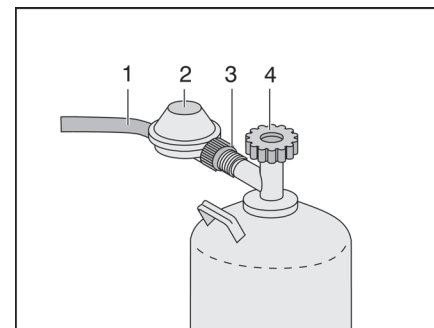

Fig. 77 Gas bottle connection
- ▶ Close the regulator tap (Fig. 77,4) on the gas bottle. Pay attention to the direction of the arrow.
- ▶ Hold the gas pressure regulator (Fig. 77,2) and open the knurled nut (Fig. 77,3) (left-handed thread).
- ▶ Remove the gas pressure regulator and the gas tube (Fig. 77,1) from the gas bottle.
- ▶ Position the gas pressure regulator (Fig. 77,2) and the gas tube (Fig. 77,1) on the gas bottle and tighten the knurled nut (Fig. 77,3) by hand (left-handed thread).